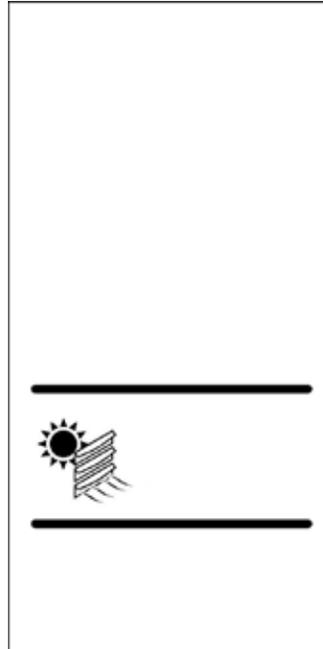

Figure 6-1: Ventilation Mode On
1. Press the **mode** button until the display in **Figure 6-1** appears.